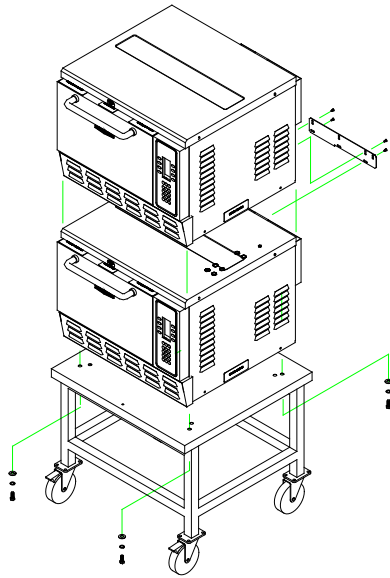

FIGURE 3: Oven Secured to Cart
### Securing Oven to Cart (Figure 3)
5. Install bolts with washers by running them up through the cart surface and into the holes in the oven (where the legs were). See Figure 3.